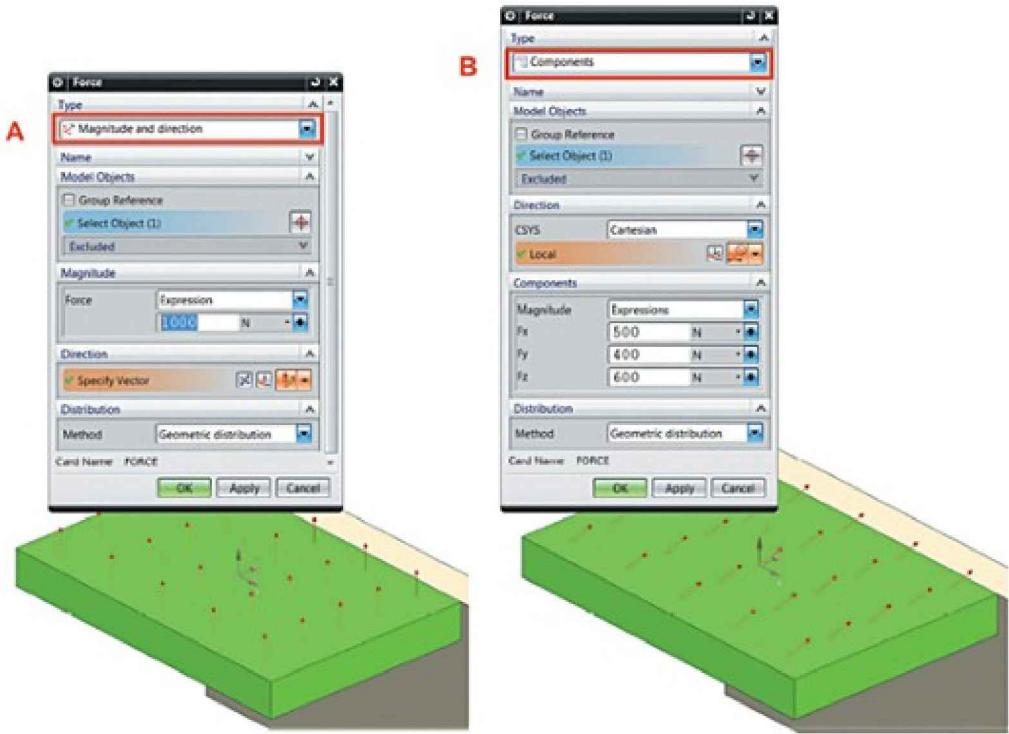

Figure 4.12. Specifying forces
- Select *Magnitude and direction* to specify the resultant value and direction of force (Figure 4.12, A).
- Select *Components* to specify force component values for the given coordinate system (Figure 4.12, B).